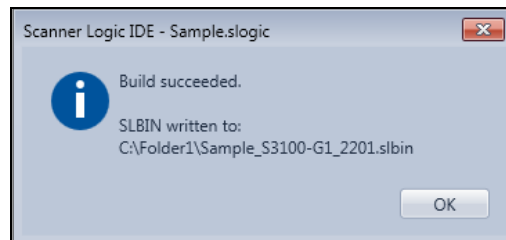

Figure 2.23—Successful Build message
- A build message displaying the complete file path and name of the produced file will appear (Figure 2.23).